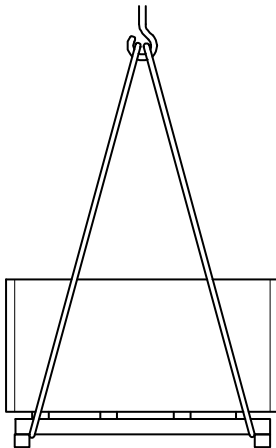

Fig. 11
1. Attach ropes, straps, or multi-point suspensions appropriately Fig. 11 to the pallet and ensure that they cannot slip.